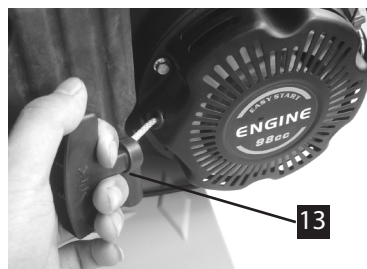

fig.14
4) Pull the starting handle slowly until you feel the resistance, and then pull it out suddenly and quickly. (Fig.14)